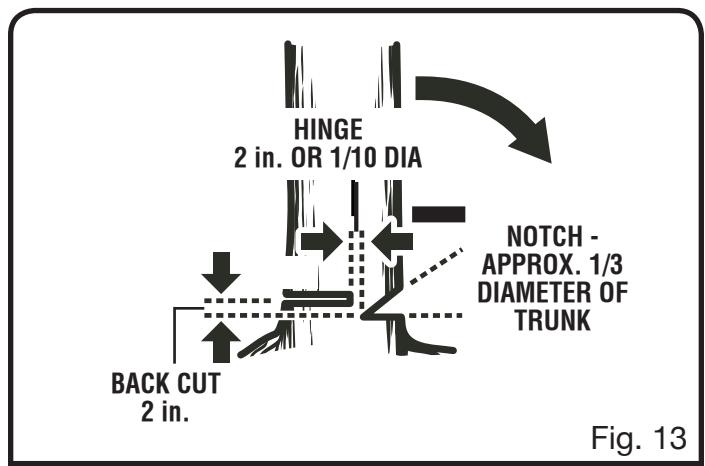

Fig. 13
- **Notched Undercut.** Cut a notch about 1/3 the diameter of the tree, perpendicular to the direction of fall. Make the cuts of the notch so they intersect at a right angle to the line of fall. This notch should be cleaned out to leave a straight line. To keep the weight of the wood off the saw, always make the lower cut of the notch before the upper cut. *See Figure 13.*
- **Felling Backcut.** The backcut is always made level and horizontal, and at a minimum of 2 in. above the horizontal cut of the notch. *See Figures 13 - 14.*
- Never cut through to the notch. Always leave a band of wood between the notch and backcut (approximately 2 in. or 1/10 the diameter of the tree). This is called "hinge" or "hingewood." It controls the fall of the tree and prevents slipping or twisting or shoot-back of the tree off the stump. *See Figures 13 - 14.*